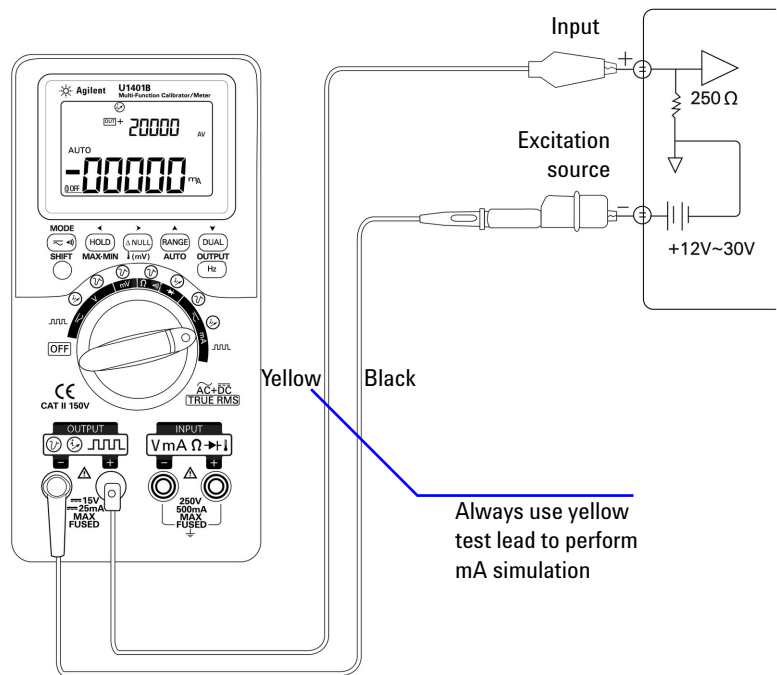

Figure 5-3 Use the yellow test lead to perform the 2-wire transmitter simulation
- 2 Connect the special yellow test lead between the positive output terminal of the instrument and the input terminal of the measurement device on the current loop. Refer to Figure 5-3 on page 91.